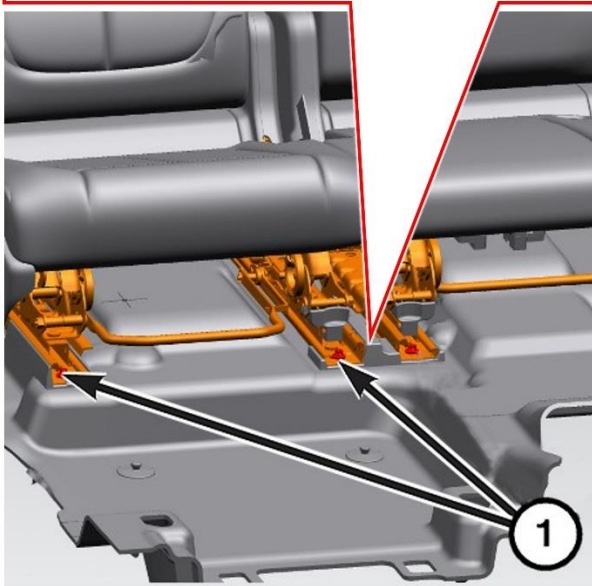

Figure 50 – Seat Front Bolts
12. Second row seats, remove the front seat track connector screw (Figure 50).
13. Second row 40% seat only, remove the front seat to floor bolts (Figure 50).